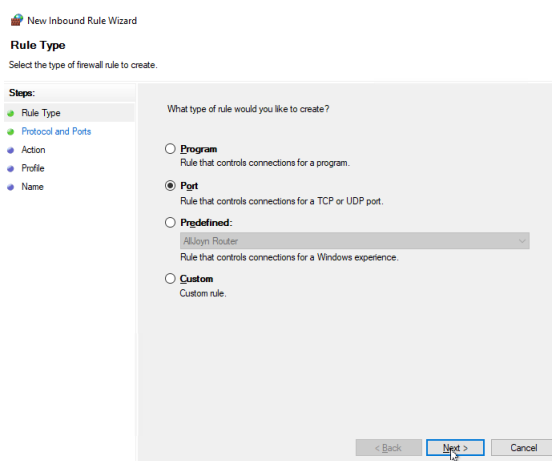

Figure B.2. New firewall rule: rule type
2. Select **Inbound Rules** and then **New Rule...**. A new dialog appears (Figure B.2).